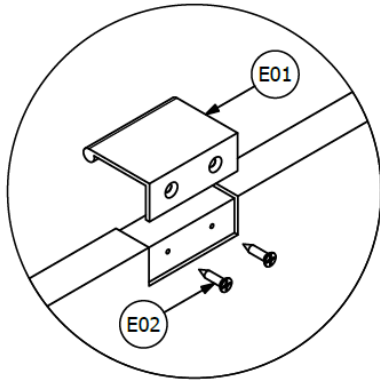

FIG. 11:
1. Using Wood Screw E02, attach Pulls (E01) to Drawer Fronts. See Figure 11.